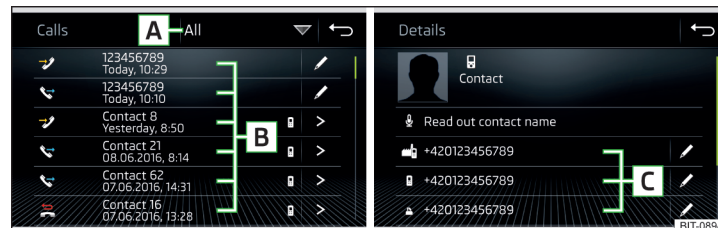

Fig. 196 Call history / Contact details
- ▶ In the *Telephone* main menu, tap on the function surface ☞ and a call list will be displayed » Fig. 196.
- > Display the contact details » Fig. 196